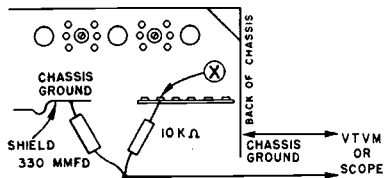

Figure 2-2. VTVM or Scope Connections.
- Connect RC filter of 10,000 ohm resistor and 330 mmfd. condenser in series from point "X" to chassis. See figure 2-2. Leave connected for all steps in this alignment.
2. Connect oscilloscope between point "X" and chassis ground through a decoupling filter (see figure 2-2). Keep leads away from receiver.
- To avoid distortion of the response curve, keep the sweep generator and marker generator outputs at a very minimum. Marker pip (25.75 MC) should be just kept barely visible. Setting sweep generator output for VTVM reading from .5 to 1 volt DC (measured from decoupling network at point "X" and chassis, figure 2-2) will avoid distortion of response curve.